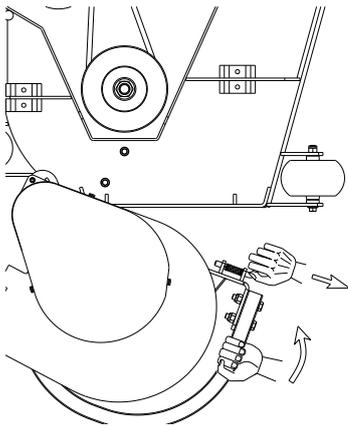

FIG 4
b) Rotate blower toward deck discharge opening. Pull spring-loaded pin and insert into discharge chute tab. (FIG 4)